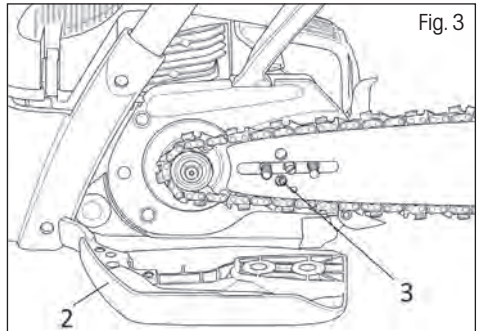
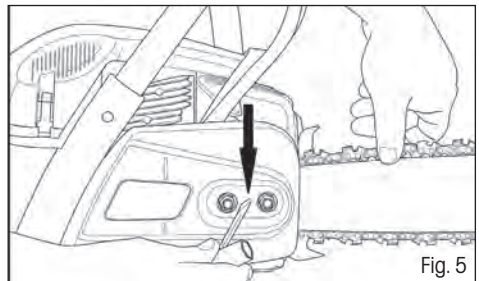

Fig. 3
Fig. 5
- ✿ Loosen two nuts and take off the sprocket cover (Fig. 3, point 2).
⚠ ATTENTION! The chain tensioning pin (Fig. 3, point 3) must fit into the hole in the guide bar. The position of this pin can be adjusted using the chain tensioning screw (Fig. 5).
- ✿ Tension the chain using the tensioning screw (Fig. 5) and then tighten the sprocket cover nuts using the included tubular wrench
- ✿ Use a screwdriver to turn the chain tensioning screw (Fig. 5). Turn the tensioning screw until the required tension is achieved (you should lift the chain in the middle of the guide bar in the horizontal position to a height of 3 to 4 mm).